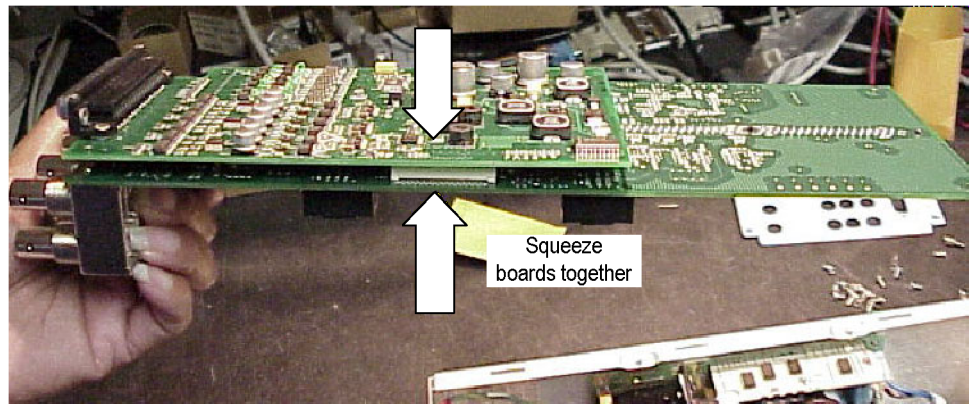

Figure 10: Checking the inter-board connection
3. On the new audio module, carefully squeeze the two circuit boards together near the inter-board connector and verify that the connector is fully seated. (See Figure 10.)